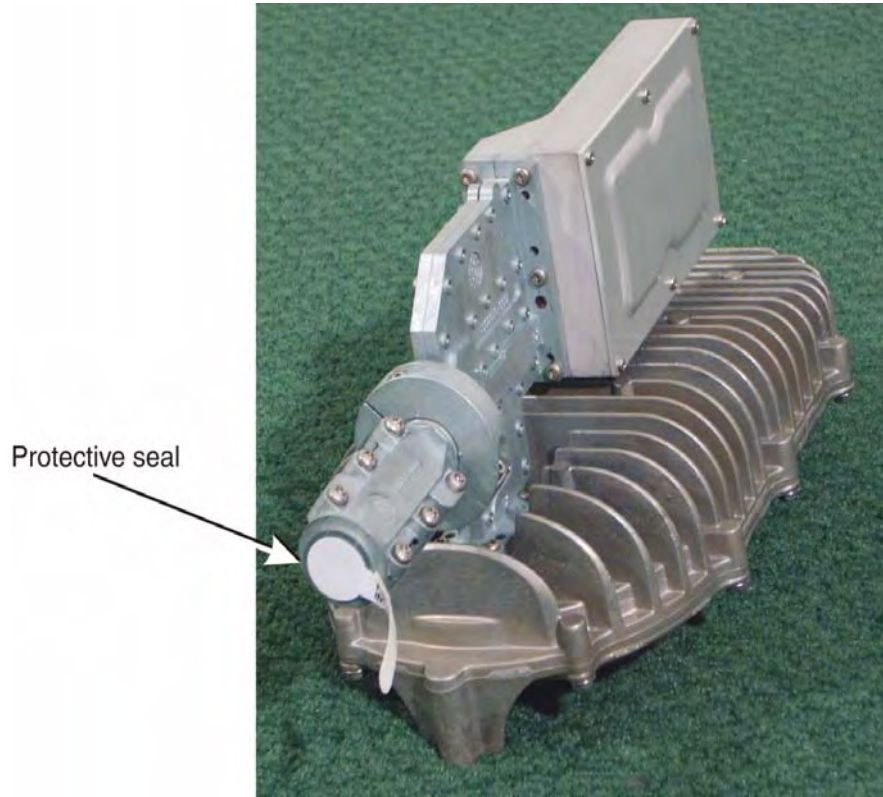

Figure 20: Remove the protective seal from the polarizer
1. Remove and discard the protective seal from the polarizer on the radio assembly (shown in Figure 20).